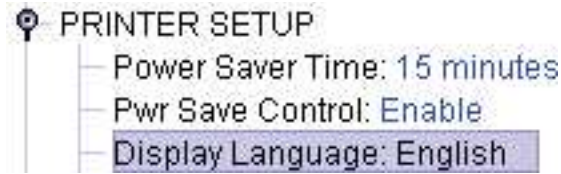

Figure 56 Selecting a Menu Item
3. Select the menu item you want to change. A selection box surrounds your choice. See Figure 56.